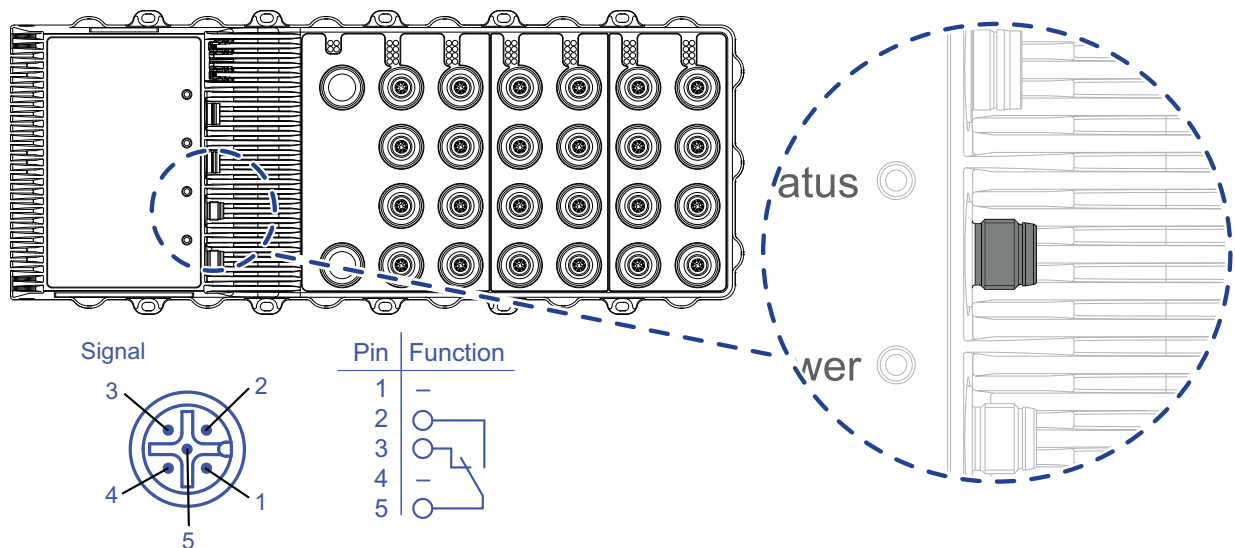

Figure 5: Signal contact: 5-pin, “A”-coded M12 plug; position on the device (front side of the device)
The signal contact is a potential-free changeover contact. If the device is not connected to a power supply, the changeover contact (5) is connected to the normally closed contact (3) (see figure 5).